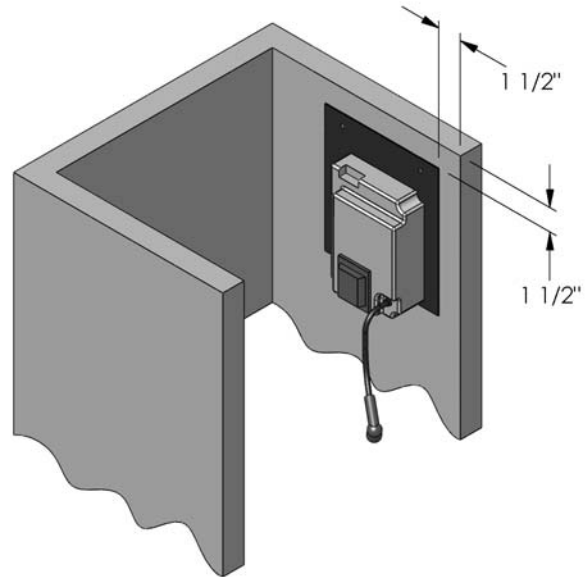
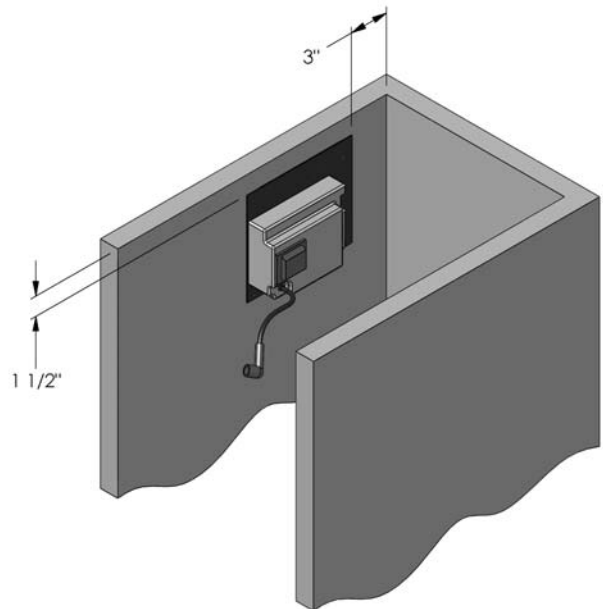

Figure 1.1: Location Guidelines for PI-80 Boilers
Figure 1.2: Location Guidelines for PI-140/PI-199 Boilers
2. The new control board for the PI-140 and PI-199 will be mounted on the opposite side of the boiler cabinet from the existing control. The new control board for the PI-80 will be mounted on the same side as the existing control. Refer to Figure 1.1 for location guidelines for the PI-80 boiler and Figure 1.2 for location guidelines for the PI-140 and PI-199 boilers.